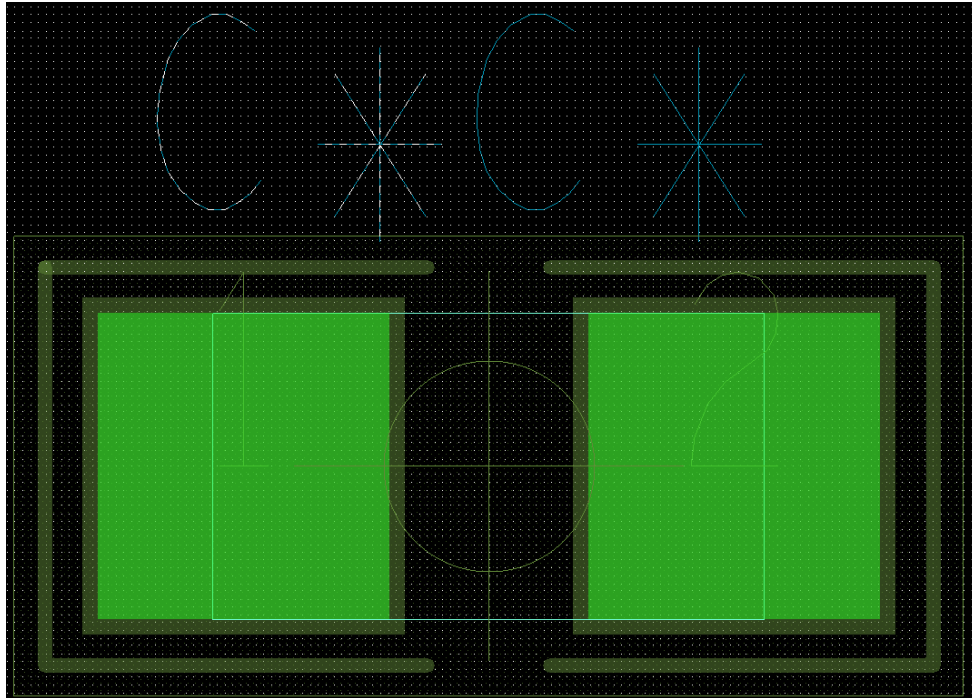

Fig. 14
15. Repeat steps 12-14 for 'Silkscreen Top'. The symbol should look like fig. 14.